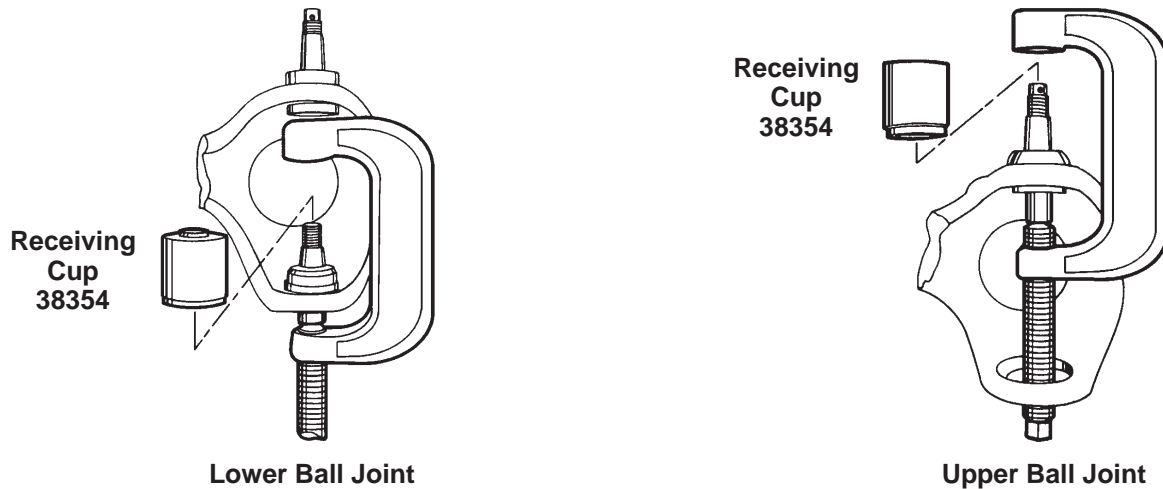

Figure 1
3. Assemble the ball joint press over the ball joint as shown in Figure 1.